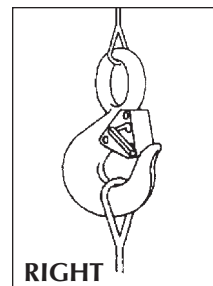
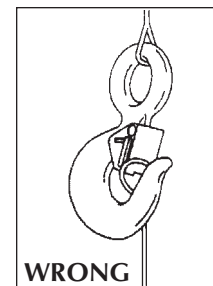

FIGURE 3
FIGURE 4
- Always make sure the hook supports the load. (see figure 3) The latch must never support the load. (see figure 4)